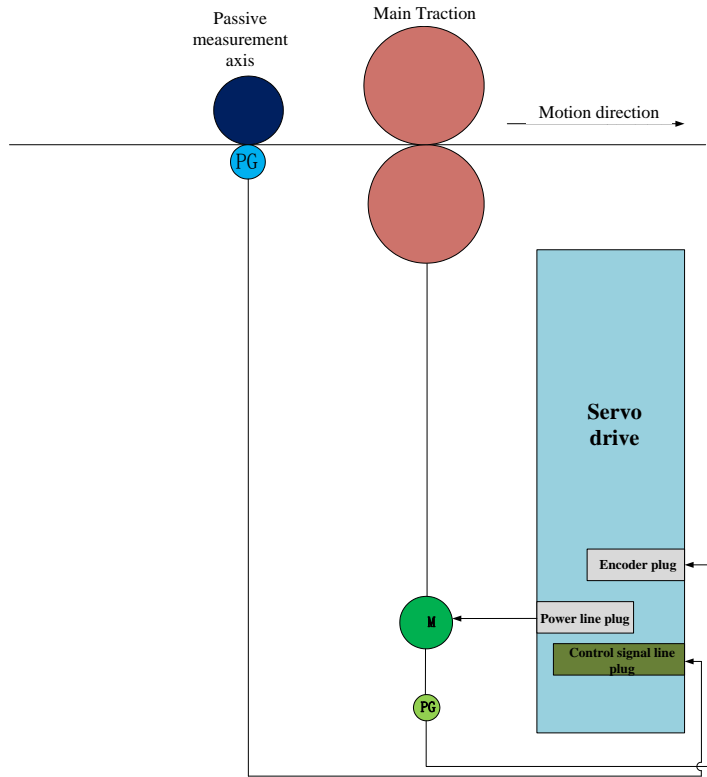
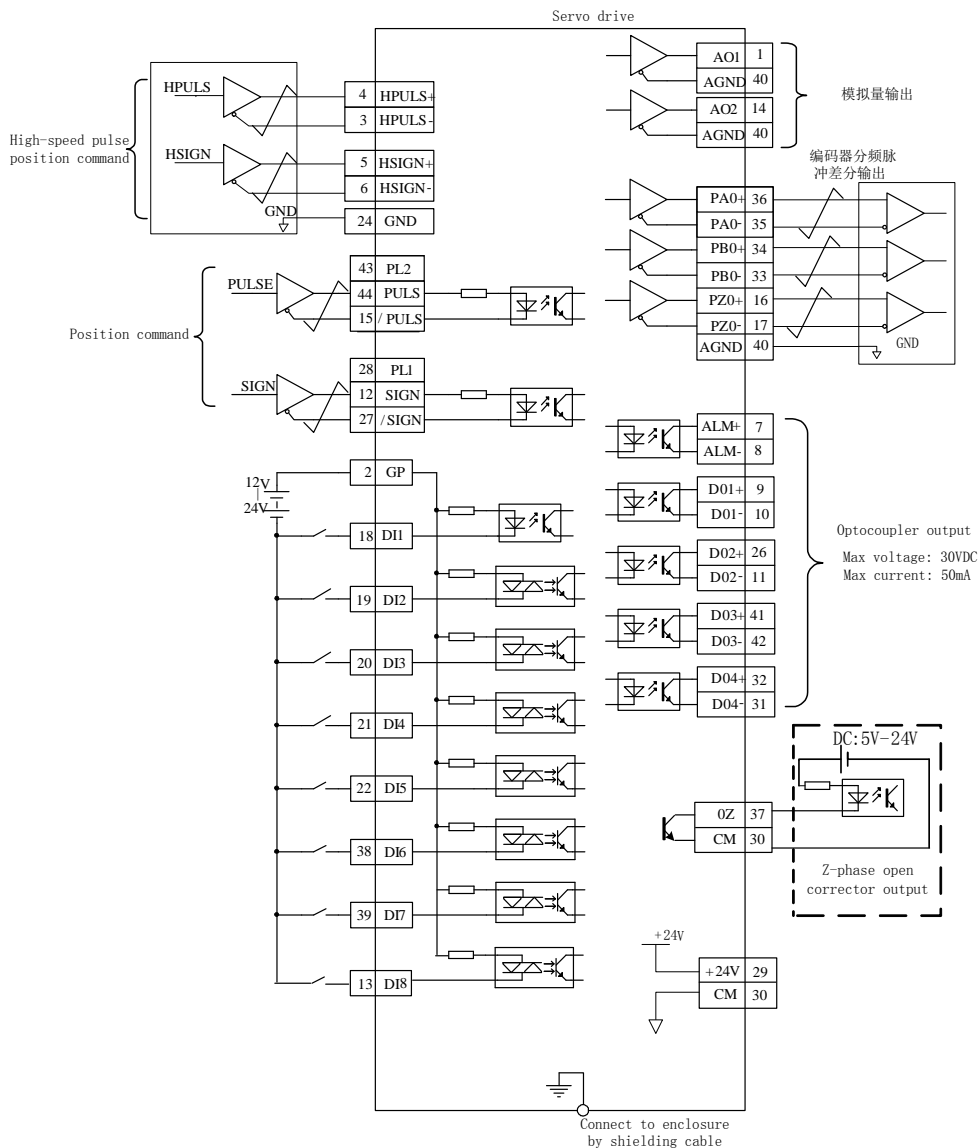

Fig 6.4.37 Full closed loop typical application sketch map
Fig 6.4.39 Full closed loop mode typical wiring diagram
- ★ Refer to the wiring instruction of Fig 6.4.37 or Fig 6.4.39, connect DI/DO;